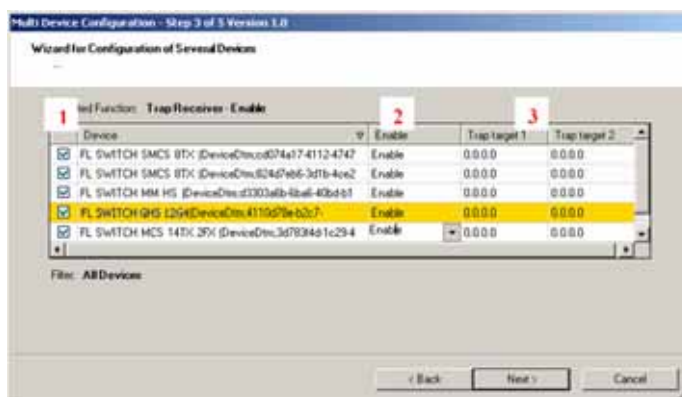

Figure 4-18 Trap receiver selection in the MDC wizard
- Step 3: A list is displayed of all the devices that support the trap receiver function (see Figure 4-18)
- In the table, devices that are not to be modified can be deactivated (uncheck device) (see Figure 4-18/item 1)
- In the table, devices can be simultaneously enabled or disabled (see Figure 4-18/item 2)
- Trap targets are specified for the first and/or second address (see Figure 4-18/item 3)